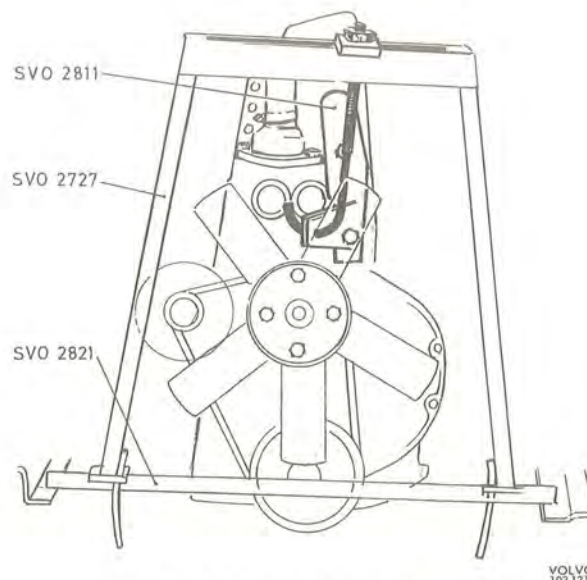

Fig. 2-12. Lifting tool SVO 2727
1. Place support SVO 2821 on the side-members as shown in Fig. 2-12. The pins should point forwards and lie against the front plates. The support plates should face upwards. Fit lifting lug SVO 2811, see Figs. 2-12 and 2-9. Place lifting tool SVO 2727 on the support and secure the hook in the lifting lug. Raise the front end of the engine to off-load the engine mountings. Remove the oil dipstick.